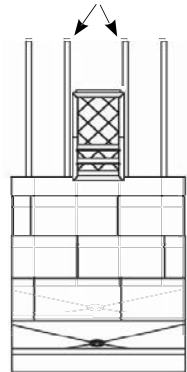

fig. 1
1. The vertical shower shelf is designed to fit between the studs in your walls. Before installing your shower system check and mark where the studs are so you can properly place the shower shelf (fig. 1). (It is not necessary, but if you wish, you can add a horizontal 2 x 4 brace 1/2" - 1" below the shelf's desired height. This will give you a platform to support the shelf. After the walls have been installed place shims between the 2 x 4 and the bottom of the shelf in order to add support to the unit.)